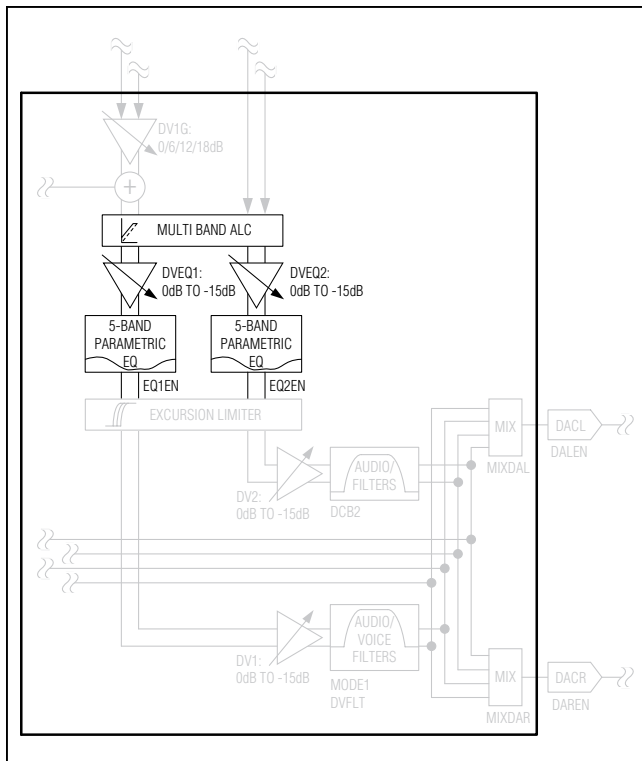

Figure 20. Playback Path Signal Processing Block Diagram
The IC playback signal path includes automatic level control (ALC) and a 5-band parametric equalizer (EQ) (Figure 20). The DAI1 and DAI2 playback paths include separate ALCs controlled by a single set of registers. Two completely separate parametric EQs are included for the DAI1 and DAI2 playback paths.